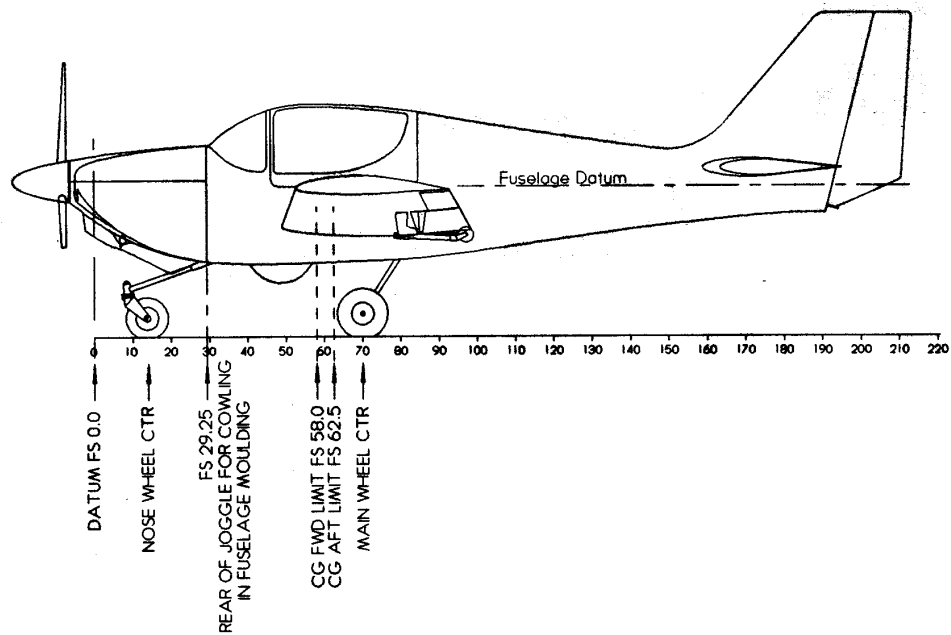

Fig 1.
2. Hang a plumb bob from the rear edge of the cowling/fuselage joggle on the port side down to the floor and mark the position; repeat on the starboard side. Join the two marks together and find the centre. Construct a line at right angles going forward from the centre of the first line, and mark off a distance of 29.25" (74.3 cm). This point is the datum and is Fuselage Station Zero(FS 0.0). See figure 1.